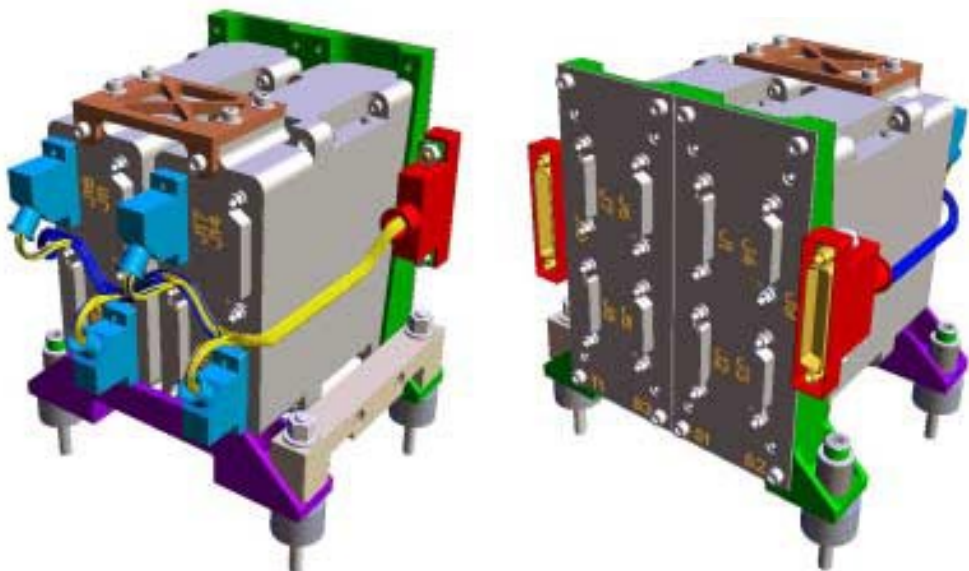

Figure 5.4-3 : SPIRE Spectrometer JFET rack external configuration
- HR-SP-RAL-ECR-049 : JFET 3D views (fig 5.4-3 & 5.4-4)
Figure 5.4-3 provides an isometric view of the Spire Spectrometer JFET rack. More detailed drawings can be found in Annex 1.